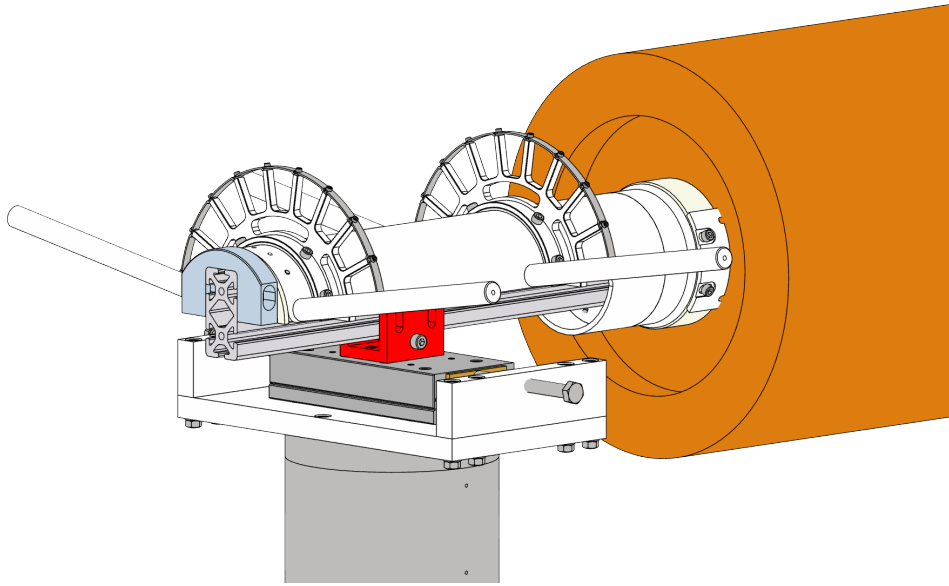

Figure 2.3: C-bracket.
**Additional information:** L0 and L1 mount the C-brackets (fig. 2.3) for housing the aluminum profile supporting the trolley, while L2 and L5 mount rail clamps. All legs are assumed to be vertically aligned. The rail is assumed to be horizontally centered with respect to the cavity.